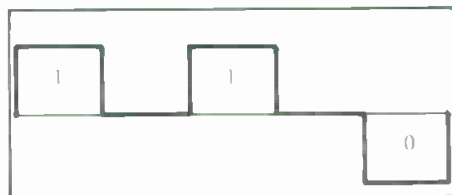

Figure 2. A self-clocking code.
The simplest self-clocking code is the Return-to-Zero (RZ) code shown in FIGURE 2, with the data pattern 110. It is a tri-valued code which returns to the zero value in between each bit, regardless of the value of the bit. A positive value signifies a 1 and a negative value signifies a 0. It is self-clocking because each bit is observable regardless of the number of similar bits. In one sense,
We are now in a position to understand one of the interesting issues for self-clocking codes: How much must the bit rate be reduced to incorporate the self-clocking feature? This question relates to the concept of a maximum bandwidth for the channel. If we had a channel with a bandwidth limitation of 10 MHz, then the direct coding of FIGURE 1 could apply a bit rate of 20 Mbits/sec, whereas the RZ of FIGURE 2 could only apply 10 Mbit/sec. The direct coding is called NRZ (non-return-to-zero). The extra return to zero does produce a major cost in bandwidth. The highest frequency of the NRZ code is a sequence of alternating 1s and 0s; whereas, the worst case for the RZ is a sequence of 1s or a sequence of 0s.